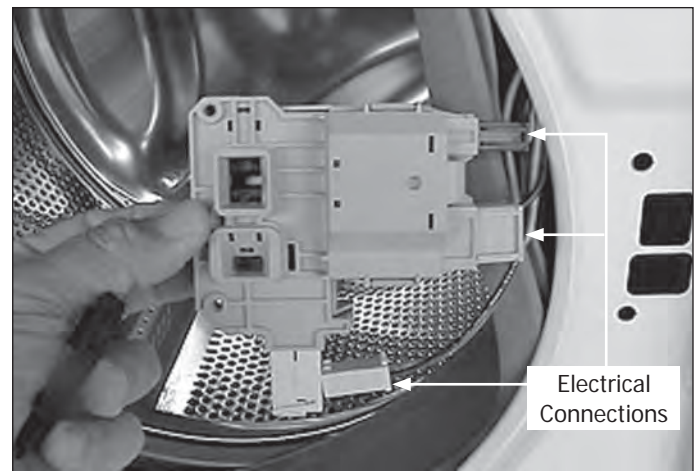

Figure 4-18.
4. Pull the switch assembly into the door opening and unplug the electrical connectors. (See Figure 4-18)